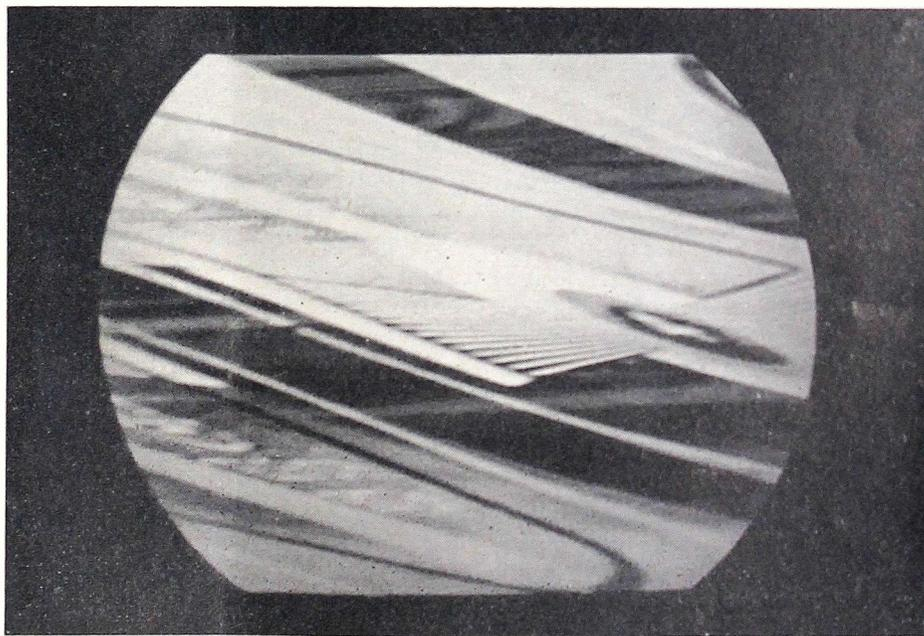

Fig. 1. Loss of horizontal synchronization.
**T**HE horizontal scanning frequency under the present television standards is 15,750 cycles per second and the sawtooth generator contained in each receiver must operate at exactly this frequency. The synchronizing pulses sent out by the transmitter must control the operation of the sweep circuits at the receiver, otherwise the picture will not be reproduced in one piece. The horizontal sweep section in every television receiver has a number of different adjustments, all necessary to keep the receiver in synchronism with the transmitter. When the horizontal sawtooth frequency is higher than that of the synchronizing pulses an effect like the one illustrated in *Fig. 1*, is obtained.